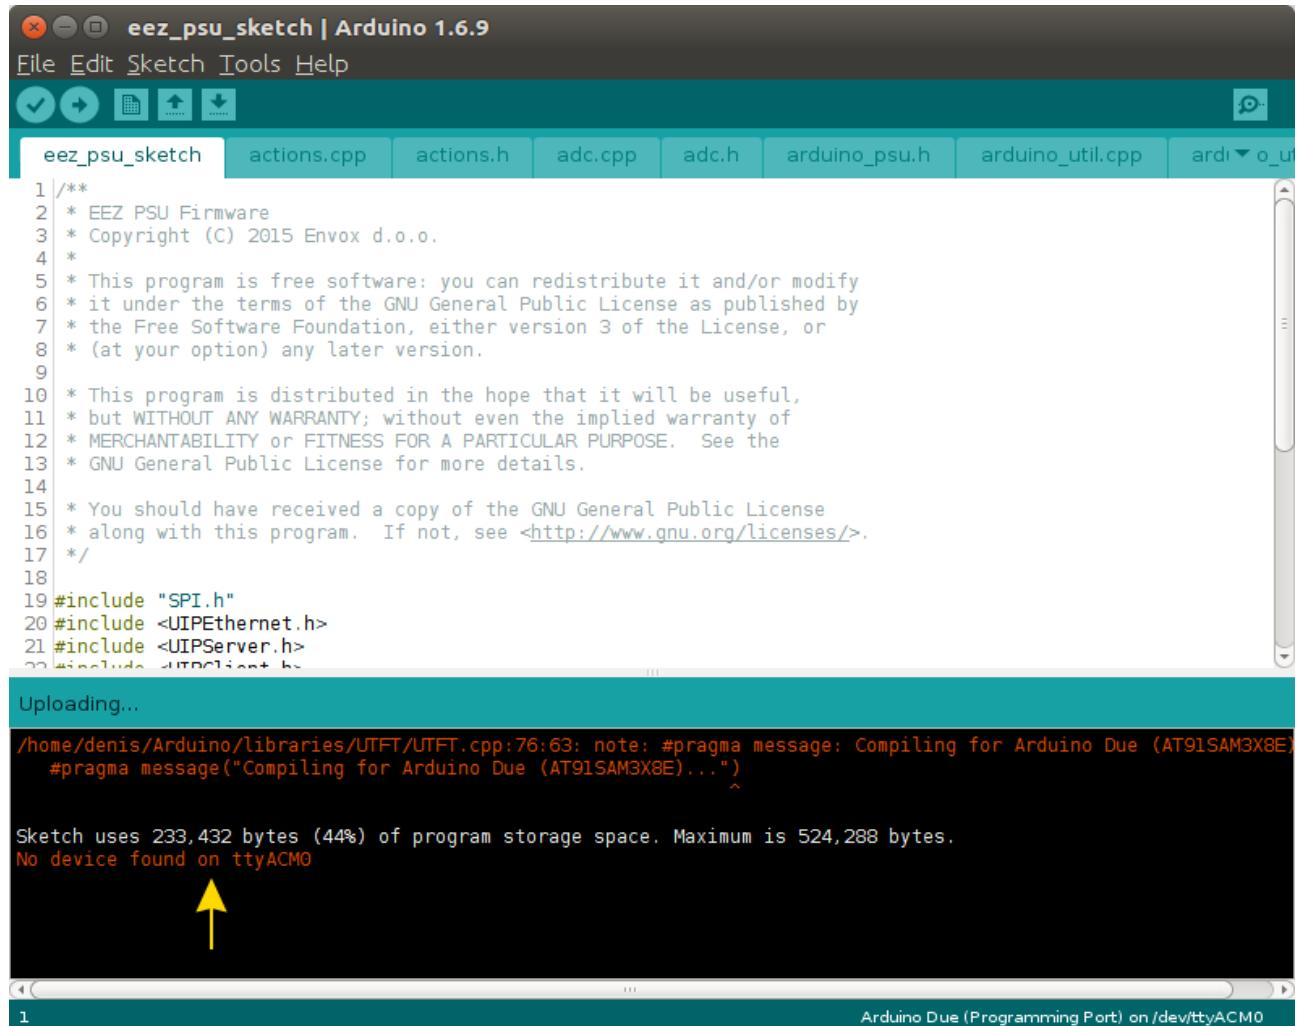

Fig. 33: Arduino sketch (firmware) upload error
- When the upload process will ends up with an error as shown on Fig. 33 press the RESET button on Arduino Shield board or Arduino Due